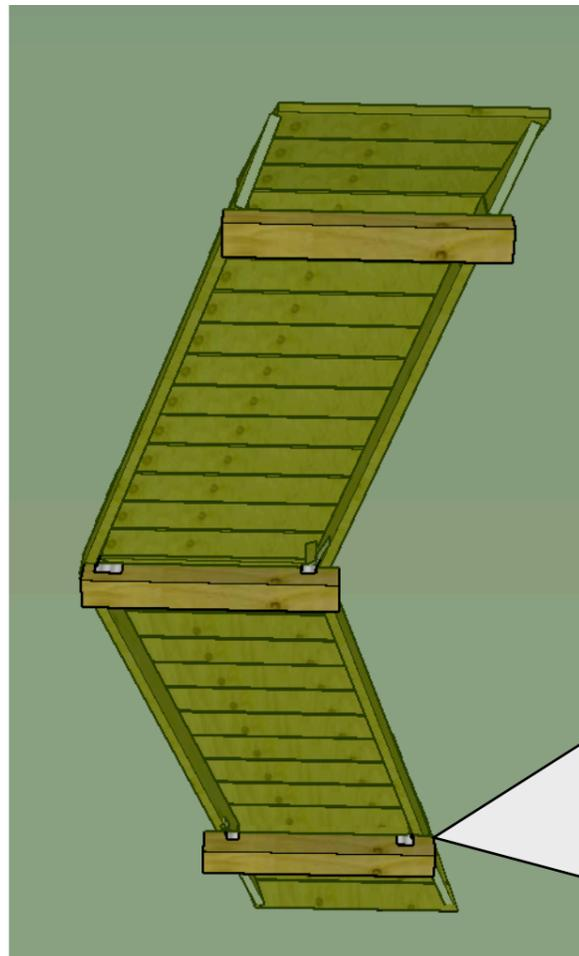

Figure 1.
5. Hardware to connect stringers to mud sills: Simpson Strong Tie Hurricane Clips (H2.5 AZ) (Figure 1.), Tie Plates (TP47), and #9 1.5" hex drive screws (SD9112MB) (Figure 2).